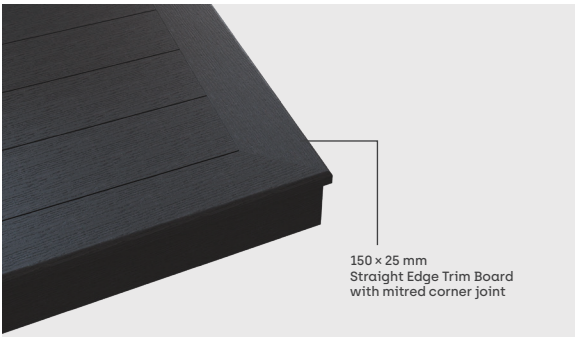

Figure 6-1
1. SKINGRAIN straight edge trim board is a rigid products with a width of 150 mm and rounded edges, typically used for edge finishing on non-curved platforms, decking areas, and steps. Miter joints are recommended at corners, as shown in Figure 6-1.